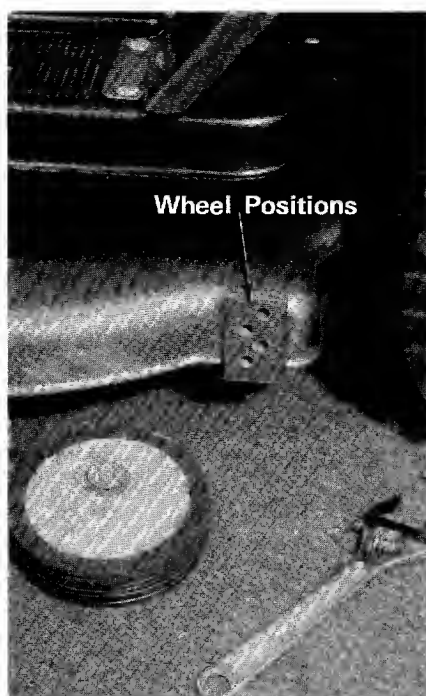

Figure 9
- 1 Remove the two deck wheels by unscrewing the axle bolts. (See figure 9.)